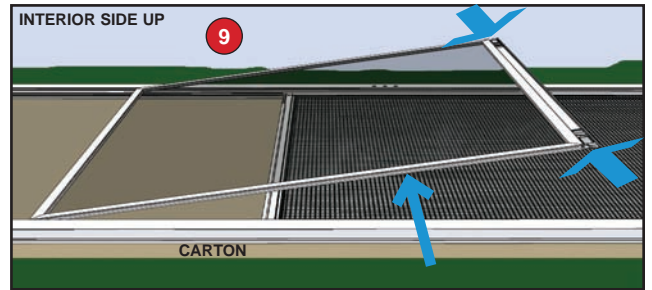

Figure 5
2. Remove the lower ventilating glass panel by sliding the latches at the bottom toward each other. Lift the lower portion of the ventilating glass panel up and then rotate it to remove (Figure 5).
12. Now that the door is hanging, install the glass panel in the reverse order of what was done in Step 2 (Figure 5).